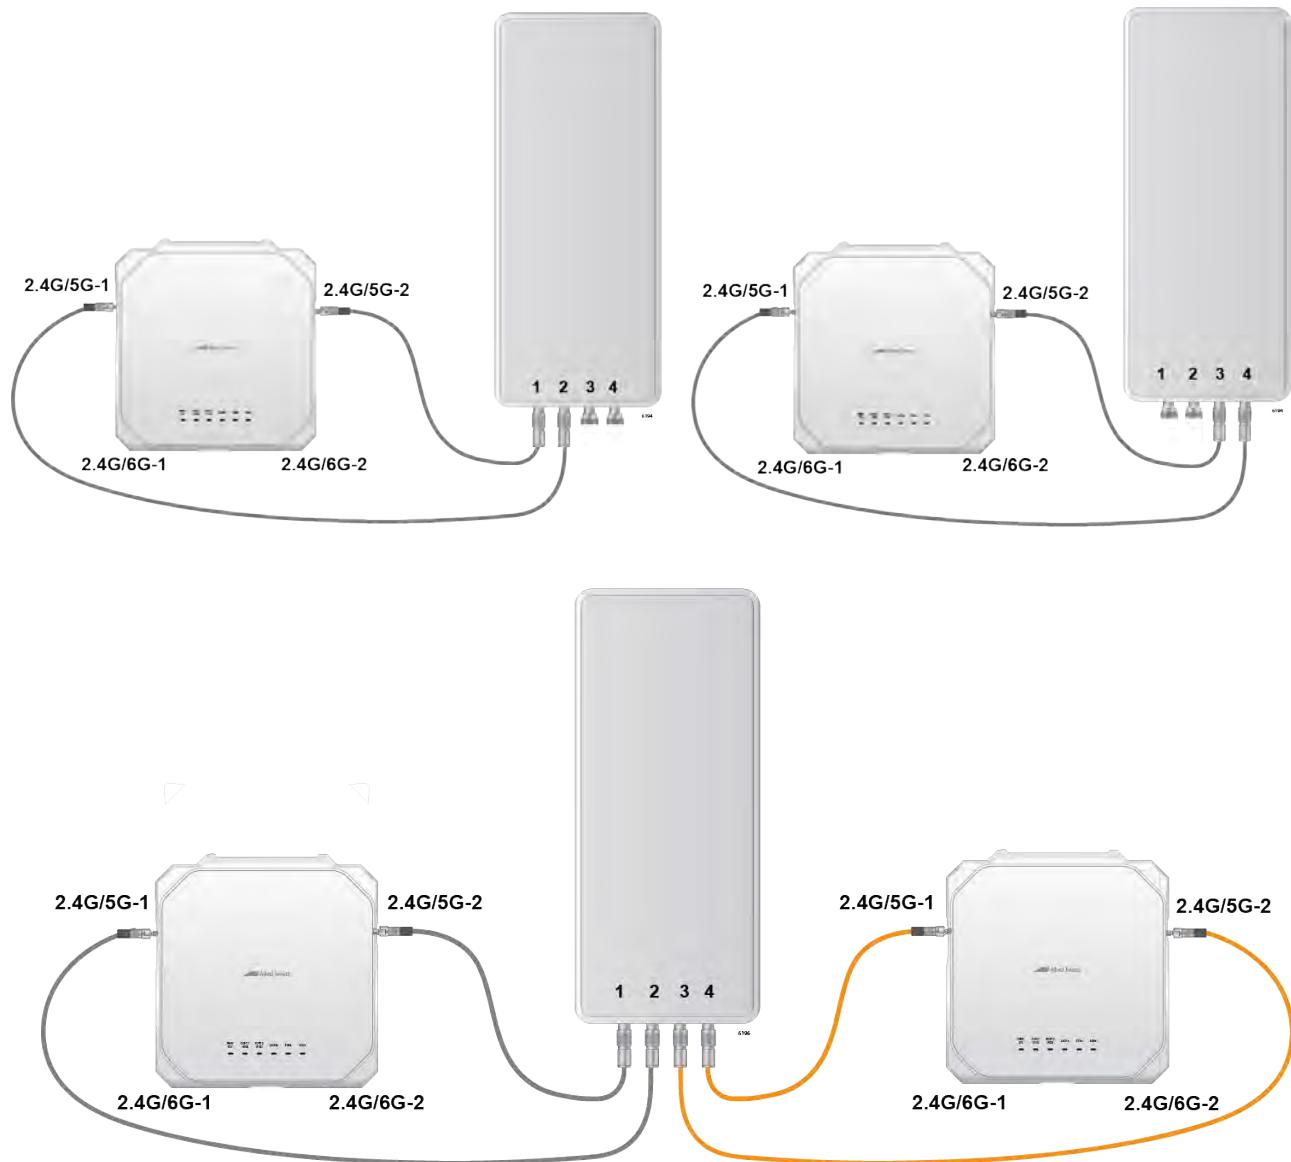

Figure 33. TQ7403 Access Point and TQ0301 Patch Antenna Configurations
- The TQ7403 access point can be installed in the configurations shown in Figure 33 on page 62.
3. Determine which antenna connectors to use by referring to Figure 33 on page 62.